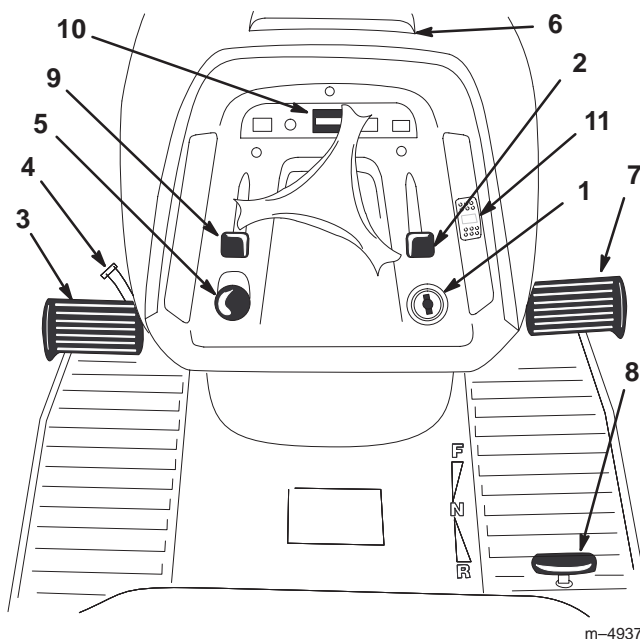

Figure 2
Become familiar with all of the controls (Fig. 2) before you start the engine and operate the machine.
1. Push the brake pedal (Fig. 2) down and hold it in the depressed position.
2. Turn the parking brake lever (Fig. 2) counterclockwise and gradually take your foot off of the brake pedal. The brake pedal should stay in the depressed (locked) position.
1. Push down on the brake pedal (Fig. 2). The parking brake lever should release.
2. Push the cruise control switch On (Fig. 2).
The hour meter is located on the instrument panel (Fig. 2). It shows the total number of hours the machine has been operated.